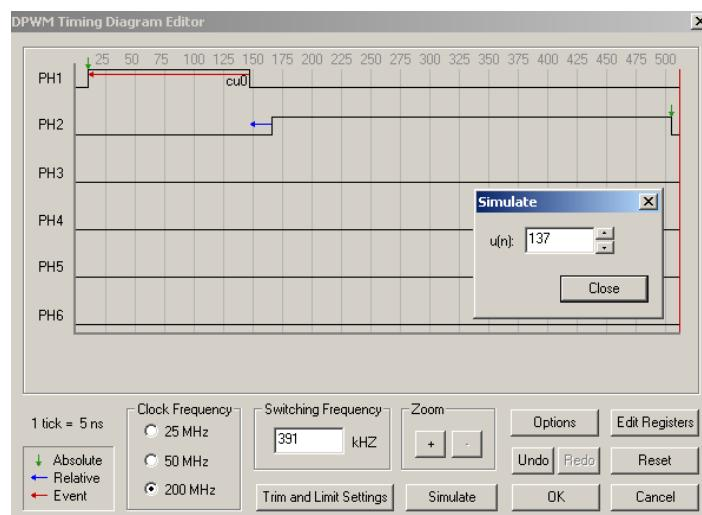

Figure 11. DPWM Timing Diagram Editor—Timing Simulator
- Click the **Simulate** button to display the Simulate Window (see Figure 11). Use the arrows to increase and decrease the value of  $u(n)$ . Notice that Phase 1's edge should modulate with its absolute edge starting at 10 ticks. Phase 2 should also modulate. However, its rising edge starts relative to Phase 1's falling edge.